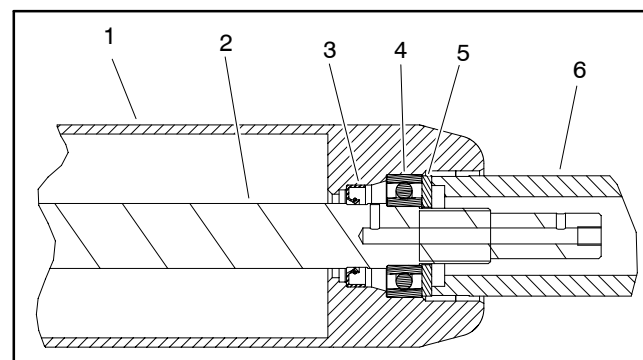

Figure 23
B. Use washer and bearing/outer seal tool (see Special Tools) with a soft face hammer to fully seat bearing (Fig. 23). After bearing installation, make sure that shaft freely rotates and that no binding is detected. If necessary, lightly tap bearing and/or shaft ends to align shaft and bearings. Remove washer from roller.